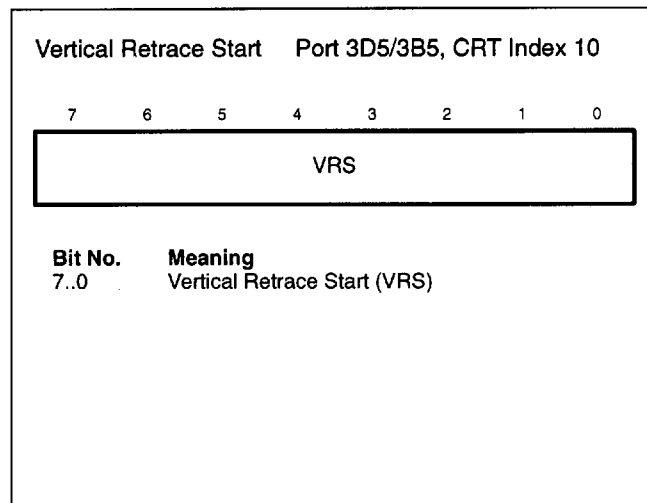

Figure 242. Vertical retrace start register format
Access to the vertical retrace start (see figure 242) and vertical retrace end registers is enabled by the end horizontal blanking register compatibility read (CR) field in the CRT controller registers group (see figure 222).
The value programmed into bits 3..0 is based on the vertical retrace start (VRS) field of the vertical retrace start register (see figure 242) and the width of the vertical retrace signal in horizontal scan units as follows: